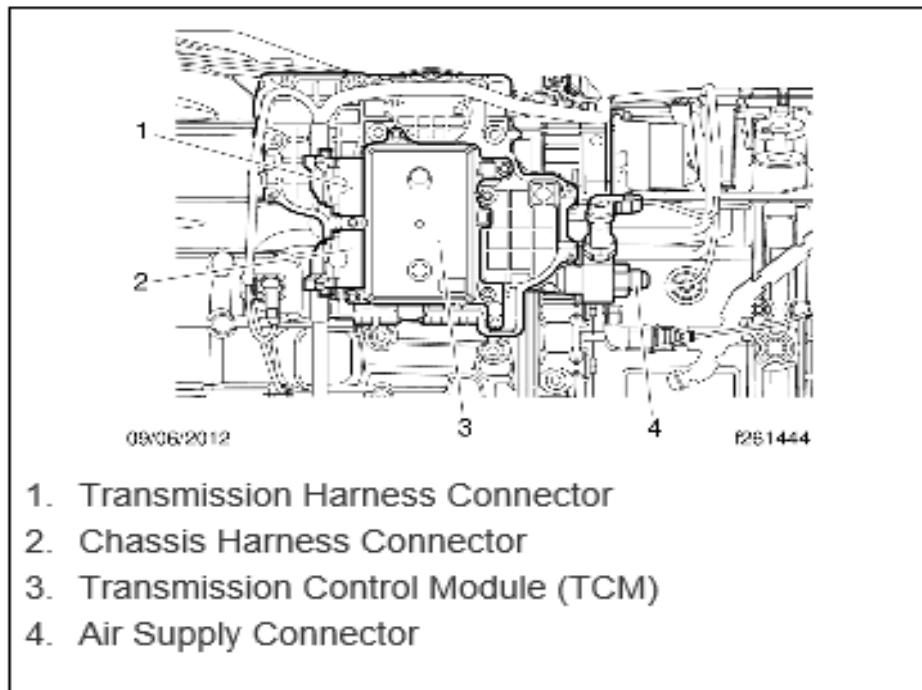

Fig. 1, TCM and Shift Controller Connectors
12. Disconnect the chassis harness connector from the transmission control module (TCM), and the transmission harness from the clutch position sensor pass-through. See Fig. 1 .
5. Connect the chassis wire harness to the TCM, and the transmission harness to the clutch position sensor pass-through. See Fig. 1 .